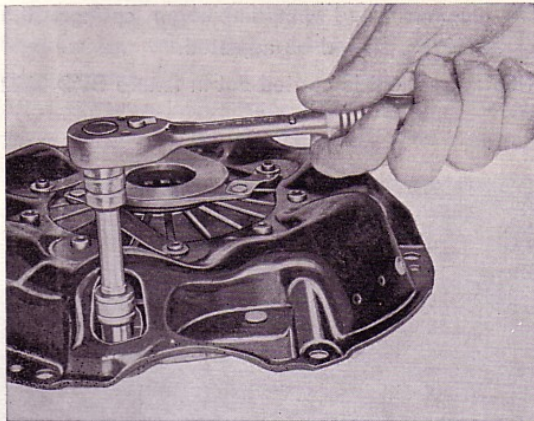

Fig. 20. Dismantling the clutch
2. Remove the three bolts securing the pressure plate to the tensioning bands and retainers, see Fig. 20.